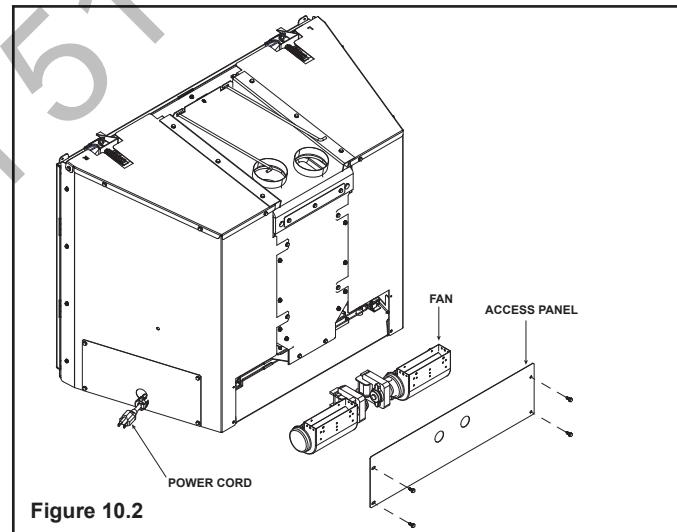

Figure 10.2
To connect optional accessories, the supplied cord assembly should be used. See Figures 10.2 and 10.3 for optional accessories.
3. Remove access panel from lower rear of the fireplace insert. See Figure 10.2.